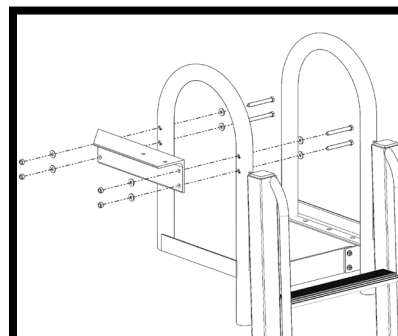

Figure 4
1. Attach Winch Mount Plate to Handrail (R) using Hardware provided in Kit #4 to complete Winch Mount Plate assembly. See Figure 4.